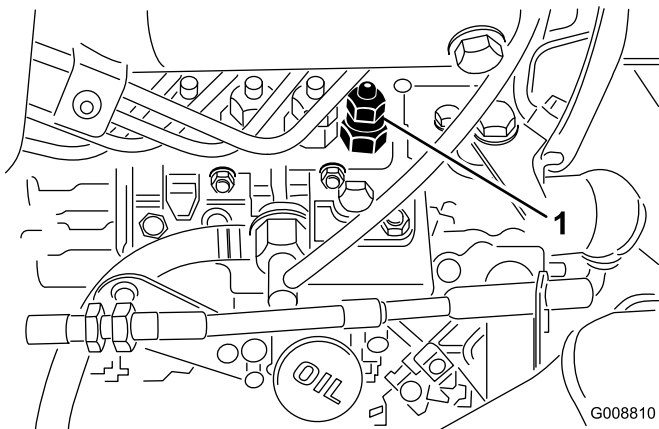

Figure 55
1. Loosen the tube connection to the Number 1 injector nozzle and holder assembly at the injection pump (Figure 55).